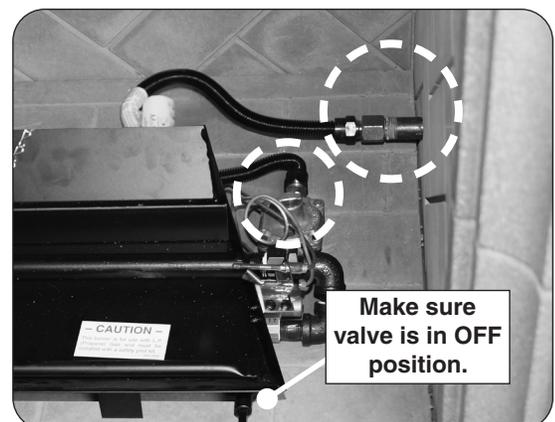

Fig. 15-3 Perform leak test
3. Place the burner system in the fireplace. Center the burner from left to right in the fireplace. (Reference Fig. 15-3 for orientation.)
6. **LEAKTEST:** Make sure the burner valve is in the OFF position. Turn on the fireplace gas supply, and test at all connections for leaks using the appropriate soapy water solution. See Fig. 15-3. If bubbles appear, a leak is present. Turn off the gas and tighten at all connections. Repeat until no leaks are present. If a leak persists, turn off the gas supply and contact the local gas company or dealer. **NEVER USE A FLAME TO CHECK FOR LEAKS.**